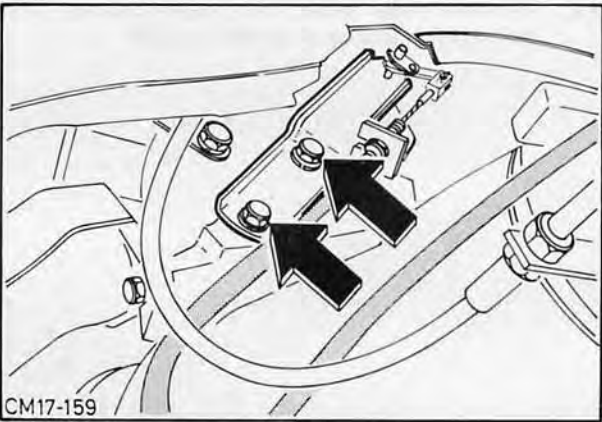

Fig. 26. Remove downshift cable bracket
15. Remove downshift cable bracket assembly from engine block (2 bolts), Fig. 26.